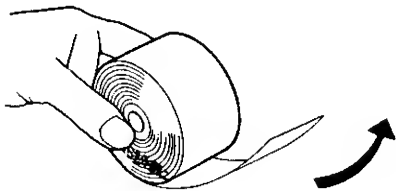

Fig. 2
3. Hold a new paper in the direction as shown in Fig. 2 so that the paper end will be fed from the bottom.